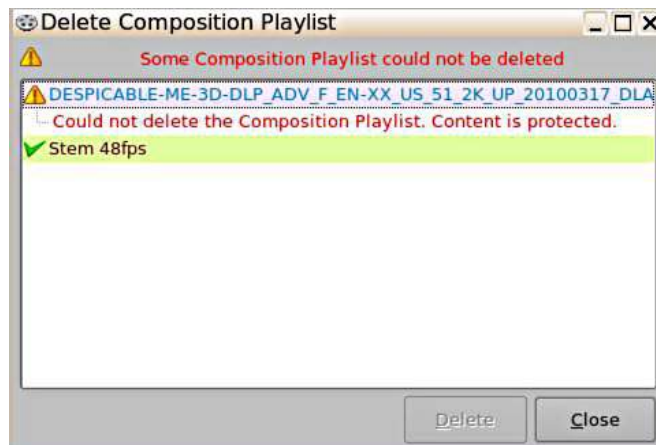

Figure 70: Content Deletion
- If the content has been locked using the Edit Locking button, and the user tries to delete the content, a window will appear telling the user that the content is protected (Figure 70).